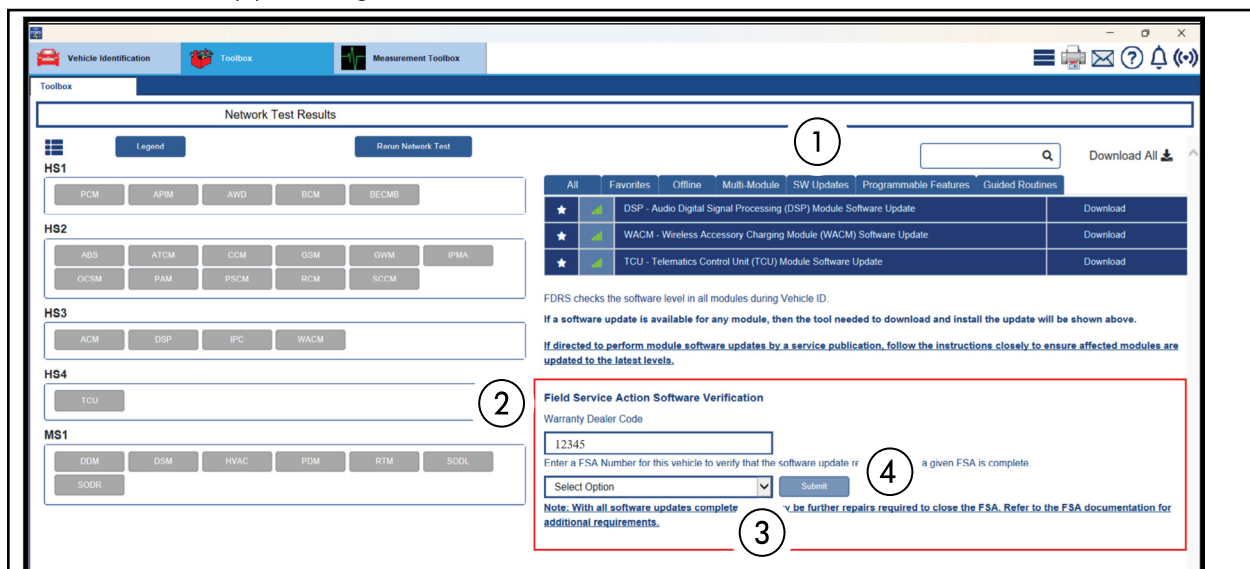

FIGURE 1
9. Select the **SW Updates** tab (1). See Figure 1.
10. **Warranty Dealer Code** (2) - Change the displayed PA code as necessary. See Figure 1.
11. Select the **FSA** (3) from the drop-down menu. See Figure 1.
12. Select **Submit** (4). See Figure 1.